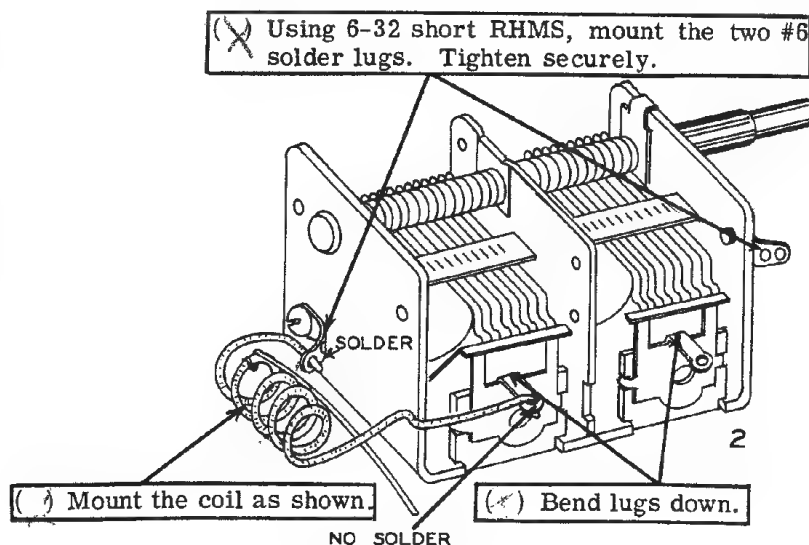

Figure 2
- () Prepare the tuning gang as shown in Figure 2 and mount the assembly on the chassis using three short 6-32 RHMS with lockwashers under the heads.